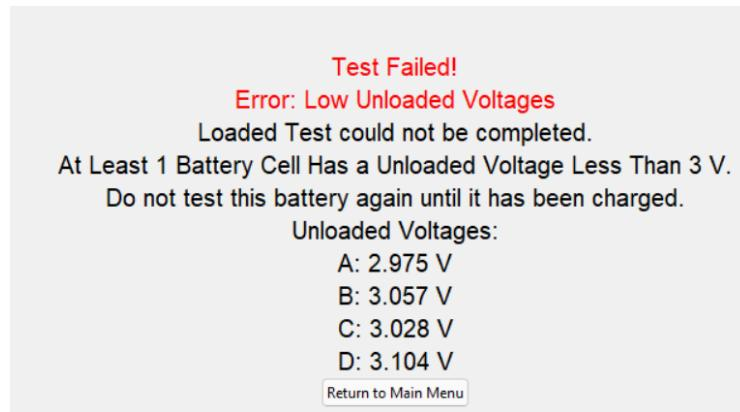

Figure 3.10 - Low Battery Voltage Error Message (TS)
4b: If any of the batteries have an unloaded voltage of under 3.0 V, the error message in figure 3.10 will be displayed along with the battery unloaded voltages. Do not test this battery again until it has been charged. Select “Return to Main Menu” to go back to the main menu (TS).